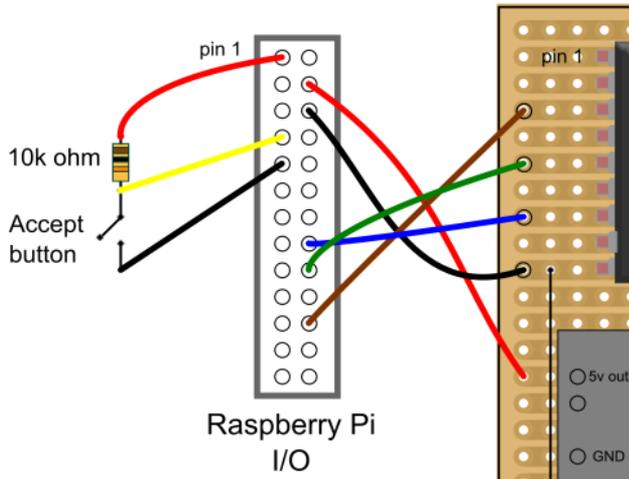

Figure 5-36. *Connecting headers to the Pi*
3. Connect the headers to the Raspberry Pi as shown in Figure 5-36.